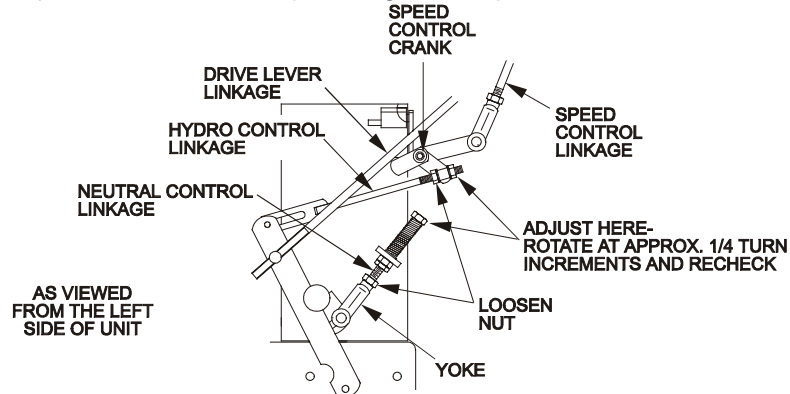
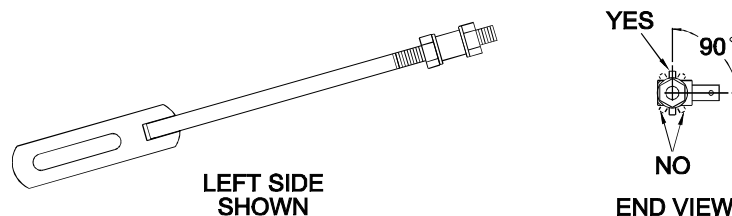

FIG. 15
FIG. 16
1. Move the speed control lever (located on the console) to the full forward position and check the orientation of the tabs on the ends of the speed control crank (Fig. 15). These tabs should be pointing straight down at the 6 o'clock position or slightly forward. Adjust the threaded yoke at the bottom of the speed control link until the tabs are positioned correctly.
4. Loosen the nut against the neutral control linkage yoke as shown in Figure 15.
2. Loosen the front nut on **left** hydro control linkage as shown in Figure 15. Turn the rear control linkage adjusting nut counter-clockwise until wheel rotates forward. Turn the rear nut of left control linkage clockwise 1/4 of a turn at a time, stopping to move the speed control forward and back to neutral, until left wheel stops rotating forward. Turn the rear nut an additional 1/2 turn and tighten the front nut making sure not to put a bind on the linkage. Make sure flat part of linkage is perpendicular to pin part of swivel. See Fig. 16.